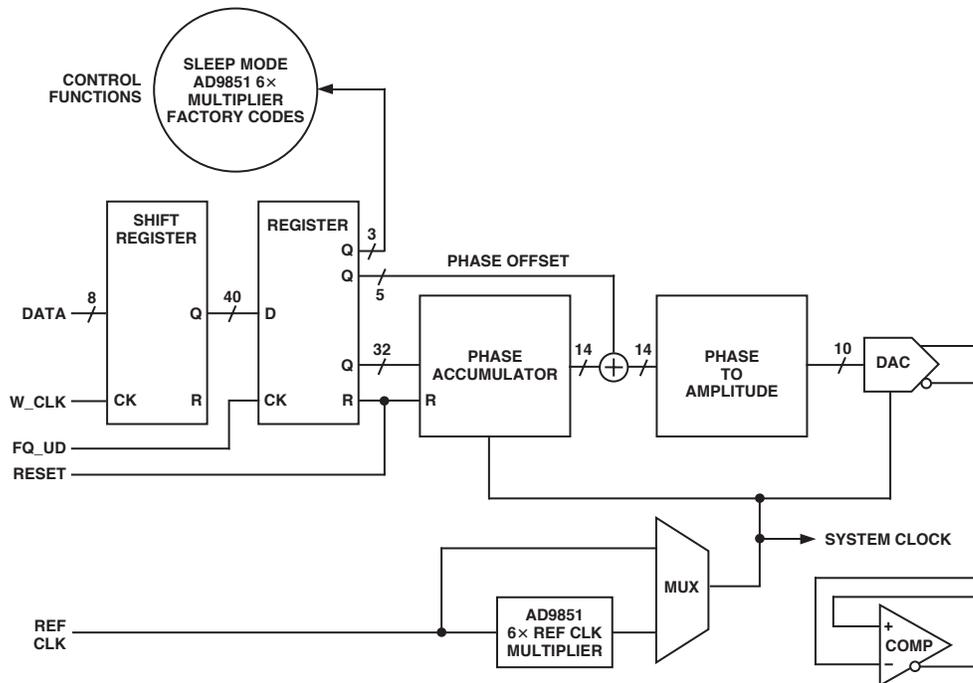
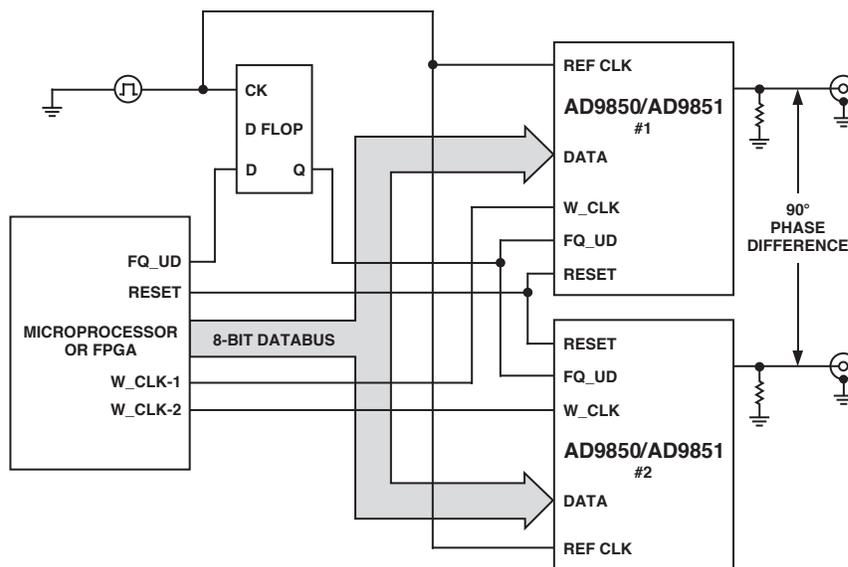
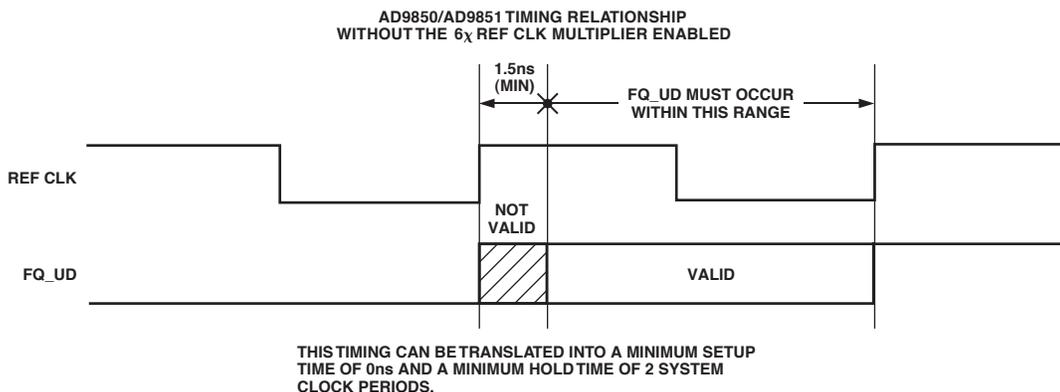

Figure 2. AD9850/AD9851 Functional Block Diagram
Figure 3. Application Circuit
Figure 4. Proper Timing Relationship between REF CLK and FQ_UD
Figure 2 is a functional block diagram of the AD9850/AD9851. There are only small differences between the two devices. The AD9851 has a 6x clock multiplier (PLL) and MUX, but the AD9850 does not.
It is essential that a proper time relationship exist between the FQ_UD and SYSTEM CLOCK (Figure 2). Improper timing of these signals can result in partial loading of the tuning word, inhibiting the synchronization of the DDSs. The FQ_UD must have proper setup times prior to a rising REF CLK edge. The proper timing will be addressed in the Synchronization Instructions section, and is shown in figures 4 and 6.
Figure 3 presents one possible reference design for successful synchronization of multiple DDSs. This example shows how to place two DDSs into a quadrature phase relationship.
In Figure 3, the D flip-flop enables the FQ_UD to be synchronous with the REF CLK and provides a setup time delay. Proper operation may require additional time delay in the FQ_UD path. This delay depends upon the CK-to-Q propagation time of the flip-flop. The recommended timing relationship between the FQ_UD (Pin 8) and the REF CLK (Pin 9) is depicted in Figure 4.
Here are some general instructions and recommendations for placing two DDSs into a *quadrature* phase relationship (refer to Figure 3). There are two sets of instructions, with and without the 6x REF CLK multiplier enabled.
6. See Figure 4 for the recommended timing between REF CLK and FQ_UD.